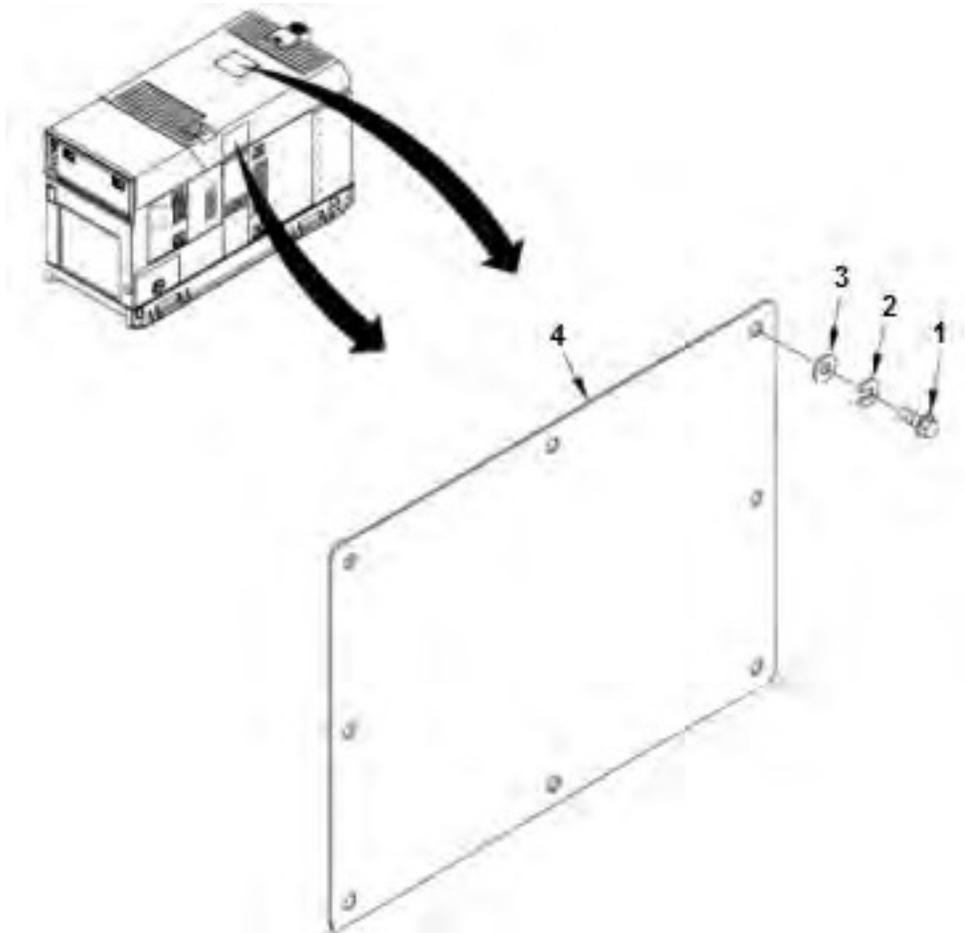

Figure 1. Access Covers.
1. Remove four screws (Figure 1, Item 1), lock washers (Figure 1, Item 2), washers (Figure 1, Item 3), and right side access cover (Figure 1, Item 4).
2. Remove four screws (Figure 1, Item 1), lock washers (Figure 1, Item 2), washers (Figure 1, Item 3), and roof mounted access cover (Figure 1, Item 4).
1. Install roof mounted access cover (Figure 1, Item 4), and secure with eight washers (Figure 1, Item 3), lock washers (Figure 1, Item 2), and screws (Figure 1, Item 1).
2. Install right side mounted access cover (Figure 1, Item 4), and secure with eight washers (Figure 1, Item 3), lock washers (Figure 1, Item 2), and screws (Figure 1, Item 1).